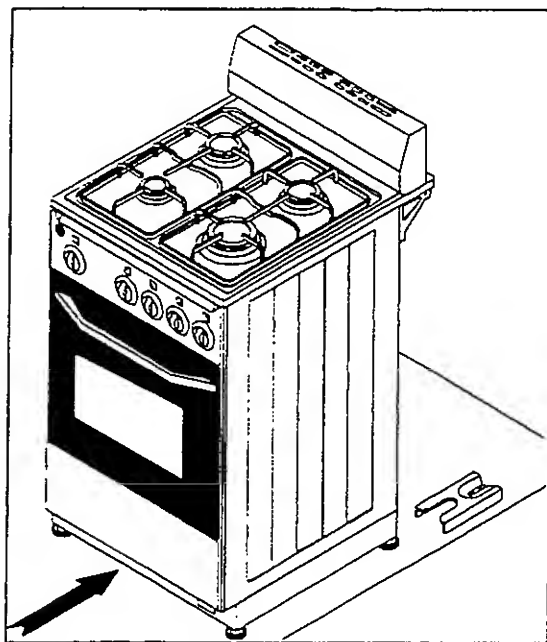

Figure 2
5. Slide appliance into position. (Figure 2)